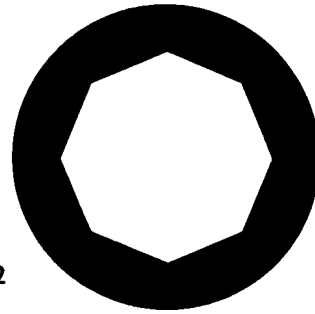

Fig. 42
e) Center the aperture iris diaphragm to the optical axis with knob (3); the knob has a click stop in the center position.
f) Swing-out the central diaphragm with knob (6); the index line on the knob is horizontal.
h) Close the field iris diaphragm with lever (5) so that it becomes visible in the field, and then open it again until just beyond the edge of the field. Further opening produces excessive illumination and loss of contrast in the microscopic image.
i) Set the aperture iris diaphragm with lever (2) to obtain the clearest and most contrasting microscopic image. This is the case when the objective rear lens (viewed through the Bertrand lens) is illuminated to about 2/3 of its diameter, see Fig. 42.